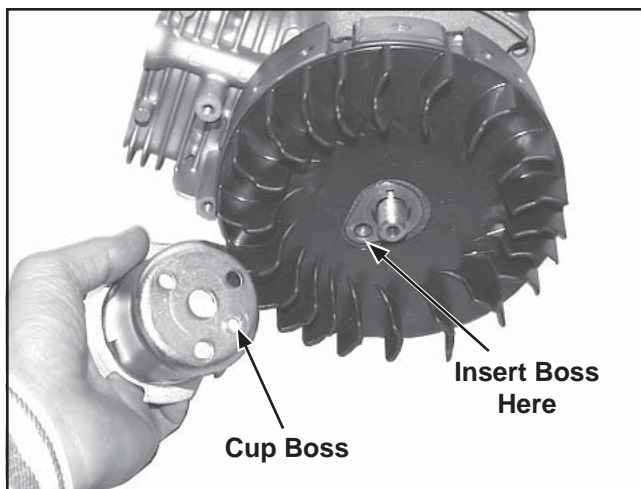

Figure 11-39. Install Drive Cup.
5. Position the drive cup on the flywheel, engaging the boss on its base with the corresponding hole in the flywheel. Hold in position and install the hex flange nut. Finger tighten to keep cup indexed. See Figure 11-39.